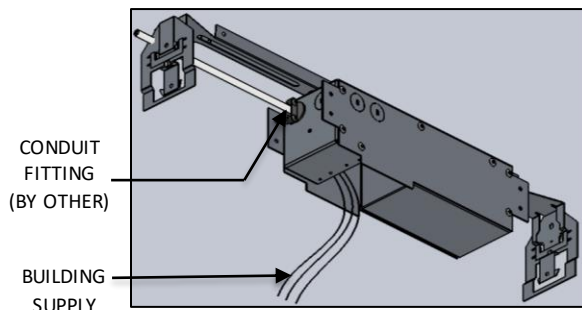

FIG. 19- CONDUIT FITTING TO J-BOX ASSEMBLY
14. Remove the desired knock out and attach appropriate 1/2" CONDUIT FITTING and pull the BUILDING SUPPLY wires through the opening as shown below in FIG. 19.